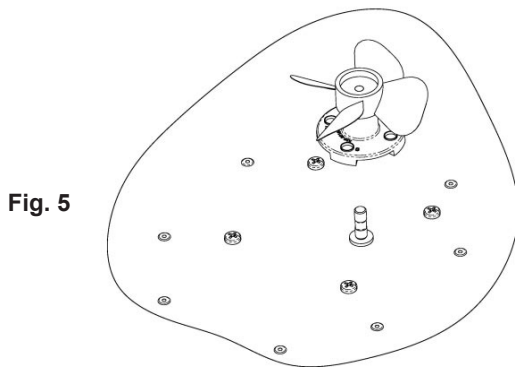

Fig. 5
1) Using Q-Tips and Alcohol or Mineral Spirits, wipe the inside of the fan blade hole clean (see fig 5).